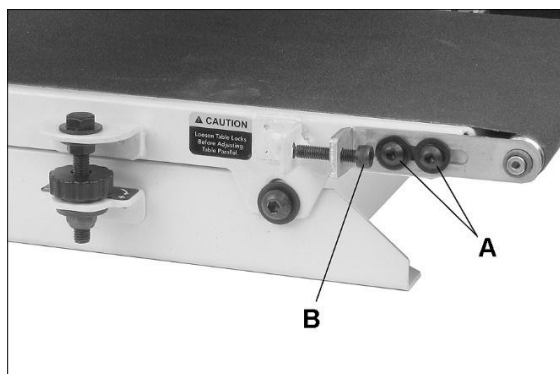

Figure 8-2: belt tension adjustment
1. Slightly loosen four screws (A, Figure 8-2) on infeed side of conveyor, with 4mm hex wrench (two screws on each side).
2. Turn take-up screw (B, Figure 8-2) with 5mm hex wrench. Do this on both sides of conveyor to obtain approximately equal tension on both sides of sanding belt when taut.
3. Tighten four screws (A, Figure 8-2).
3. If conveyor drifts, slightly loosen two screws (A, Figure 8-2) and turn take-up screw (B, Figure 8-2) on one side of conveyor as needed.
4. When adjustment is satisfactory, tighten two screws (A, Figure 8-2).